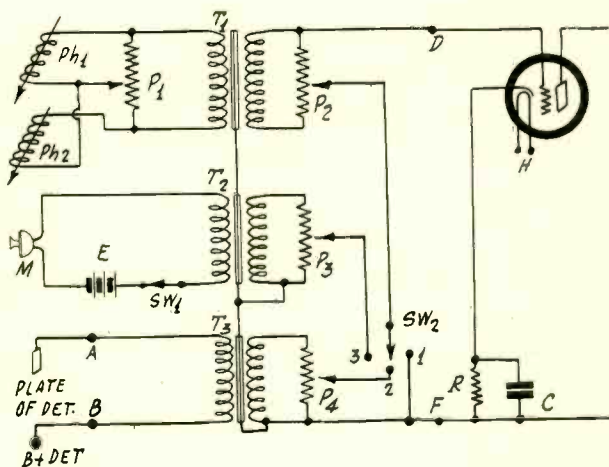
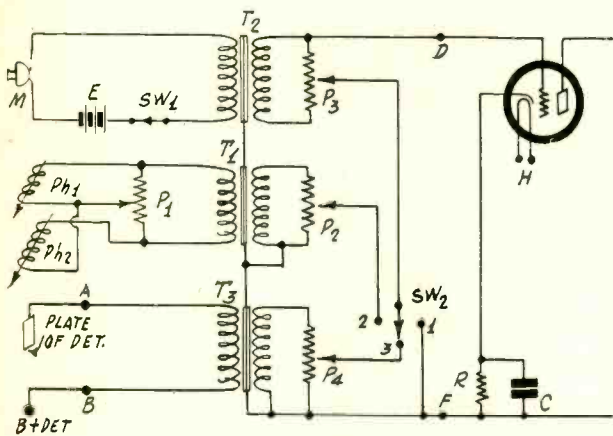

FIG. 1
FIG. 2
In Fig. 1 we have an arrangement of two phonograph pick-ups, a microphone, and a radio receiver. The object of this circuit is to enable an operator to select either phonograph, the microphone, or the radio receiver. An additional requirement is that the arrangement should be such that the operator should be able to leave the phonograph in the circuit while either the microphone or the radio is functioning, but so that the phonograph music appears as a background. Thus there may be two of the devices feeding the amplifier at the same time.
In Fig. 1 the phonograph is always in the circuit while the switch enables the selection of either the microphone or the radio. It may be a better and more logical arrangement to wire the circuit so that the microphone is always in the circuit and so that either the radio or the phonograph can be selected by means of the switch. For example, the circuit may be used for broadcasting on a small scale. The radio could be used for re-broadcasting and the phonograph for sending out recorded music. The microphone should be left in for announcements. This arrangement is shown in Fig. 2. The microphone now occupies the position the phonograph did before while the phonograph takes the position that the microphone held. In other words, the two have simply been interchanged.
The tube in either Fig. 1 or Fig. 2 is shown merely to illustrate the method of coupling the mixer circuit to the amplifier. It will be noted that the two lower devices in each case are connected in parallel and that the upper is connected in series. These statements apply only to the secondaries; the primaries are quite independent. Point F in each circuit is the ground side of the amplifier and point D the grid side. Points A and B are the output terminals of the detector of the radio receiver.
In the public address amplifier published last week the microphone is shown. In that circuit input transformer T1 corresponds with transformer T2 in Figs. 1 and 2 of the mixer arrangement, and potentiometer P of that circuit is P3 of the present. To get the connection shown in the public address amplifier Sw2, in Fig. 1, is set on point (3) and the slider of P2 is set at the top. In Fig. 2 the circuit becomes like of last week by setting Sw2 on point (1), or by setting Sw2 on (2) with the slider of P2 at the bottom, or by setting Sw2 on (3) and the slider of P4 at the bottom.